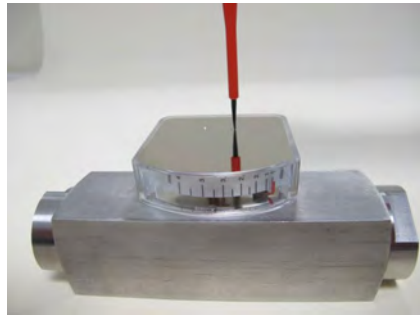

Fig. 64
- 24.** Screw in and tighten the fixing screw of the display housing cover (Fig. 64), observing the proper torque (  *Chapter 11.1 "Tightening torque" on page 91*).